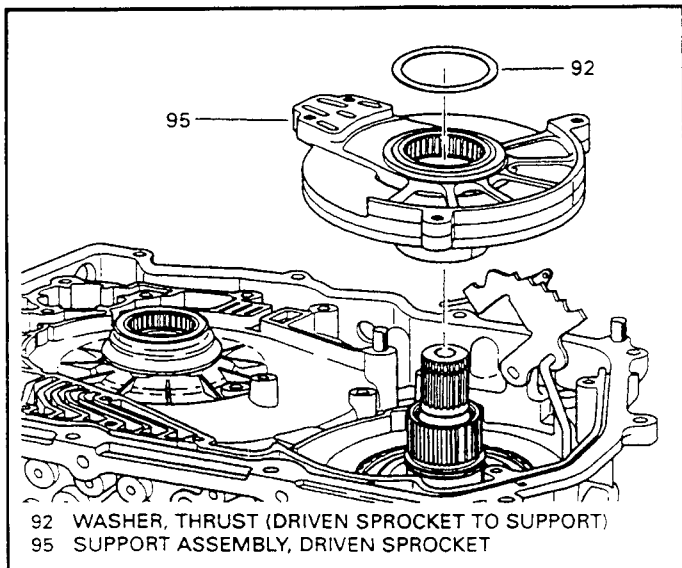

Figure 68
65. Remove the driven sprocket support assembly, as shown in Figure 68.